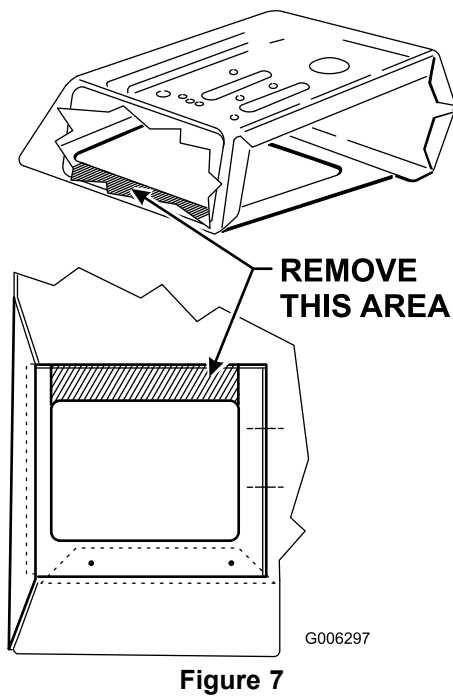

Figure 7
2. Remove the (2) instrument panel mounting cap screws and lift off the instrument panel.
3. Trim away the bottom front portion of the instrument panel, as shown in Figure 7.